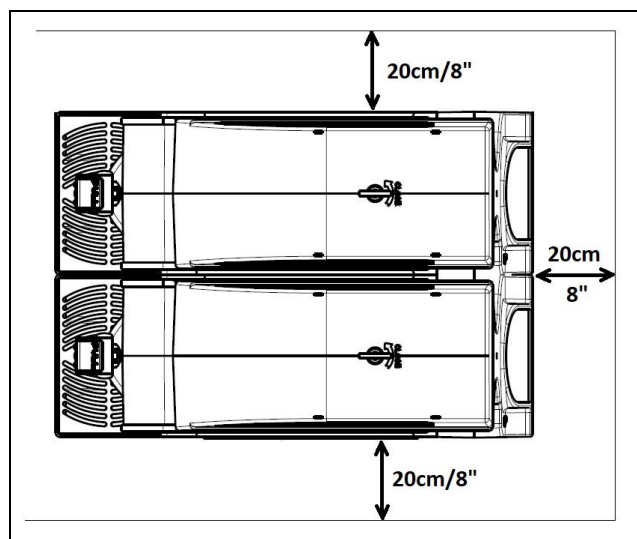

Fig. 14
- b) Rest the machine on a sturdy, flat surface making sure it is well ventilated by leaving a gap of 20cm/8" all around it and do not install it near heat sources (fig.14); **we recommend you to maintain a room temperature between 24 and 38°C (between 75 and 100°F) for the Frosty models, between 24 and 32°C (between 75 and 90°F) for the Sorby ones.**